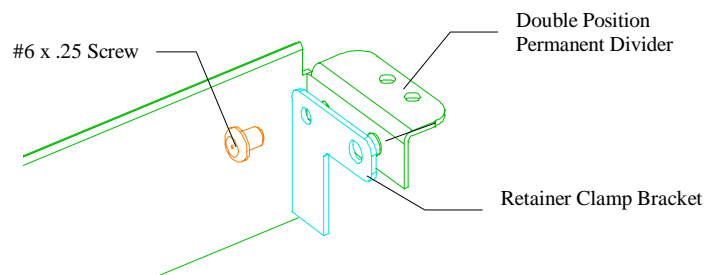

Figure 4 Attaching a Retainer Clamp Bracket to the Double Position Permanent Divider
1. Attach the Retainer Clamp Bracket to the kit supplied Double Position Permanent Divider using the #6 x .25 Self Tapping Screw. Note: the alignment post on the divider goes through the Retainer Clamp Bracket (see Figure 4).